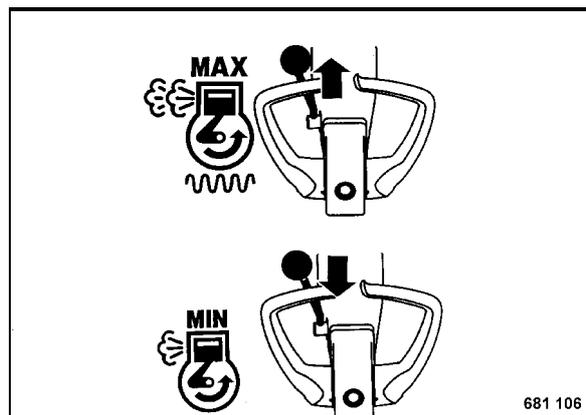

Fig. 45
- Keep moving throttle lever (Fig. 45) between "MIN" and "MAX" throttle position.